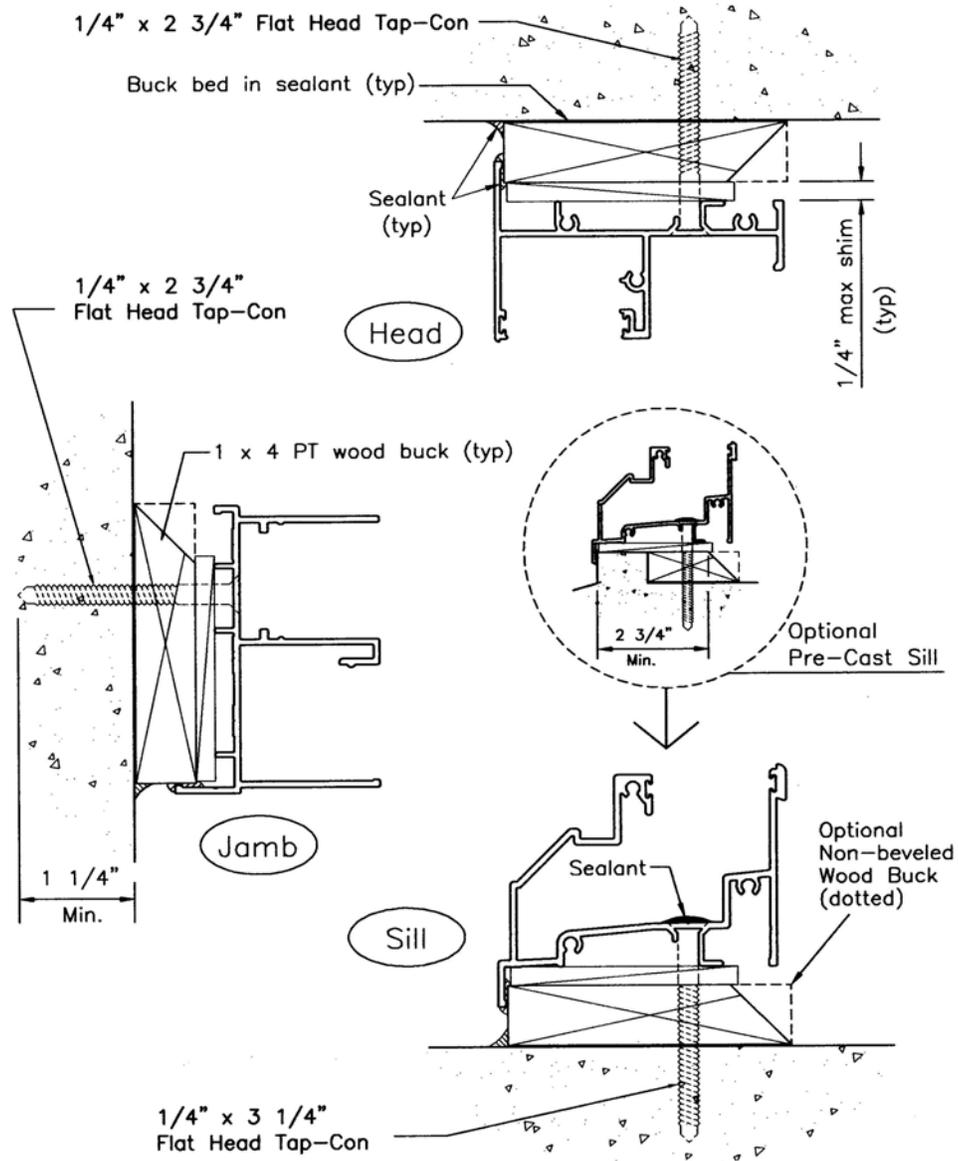

Figure 2: Installation type "A" using 1 x 4 bucks into concrete structures
Page 6:	Figure 2: Installation type “A”
2. Make sure wood bucks are of the correct size and type for the installation method being used (*see figures 2, 3, 4 or 5 - Installations Types A, B, C or D*). The bucks must be properly bed in sealant and securely attached to structure. Wood bucks should not be separated at corners. Verify that wood bucks are plumb, level and square.
5. Temporarily secure window frame using installation screws as selected from the Miami-Dade County Product Approvals (TDI Approvals in Texas) for your specific application (*see figures 2 – 5*). To simplify the pre-installation process, you may want to use a smaller temporary screw such as a #12 Flat Head Sheet Metal Screw and only penetrate the wood. Shim every installation screw snugly (shim space should not exceed 1/4"). Temporarily secure the window with one screw at each end of the head member and one screw on each jamb (use the bottom most screw hole on the jambs). Make sure window operate correctly. Make sure window is plumb, level and square. **Caution: Any window, which is forced into an opening and racked or twisted, can eventually cause glass breakage.**
Window attachment to structure	Based on installation type used. Refer to figures 2, 3, 4 or 5 in these instructions for the minimum screw size recommended in installations type A, B, C or D. Also, refer to Miami-Dade County product Approvals.